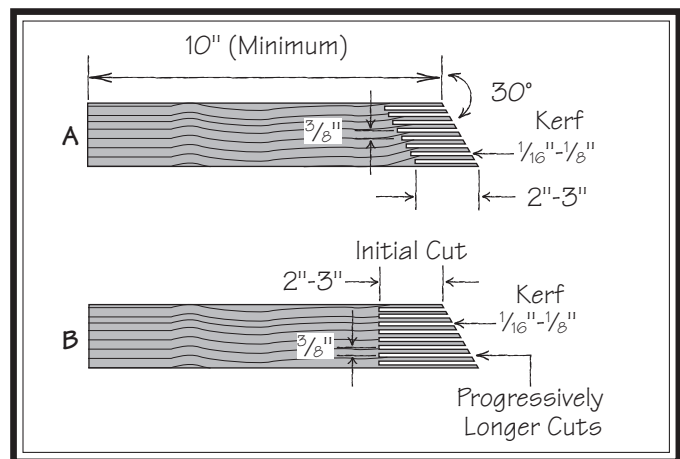

Figure 83. Featherboard (top view)
3. Make a series of end cuts with the grain 3/8"–1/4" apart and 2"–3" long, as shown in **Figure 83 (A)**. Alternatively, start cuts at 2"–3" deep, then make them progressively deeper, as shown in **Figure 83 (B)**.